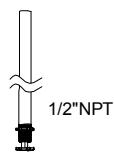

Figure8
1. Unscrew the nuts on 1/2" NPT(Figure8)